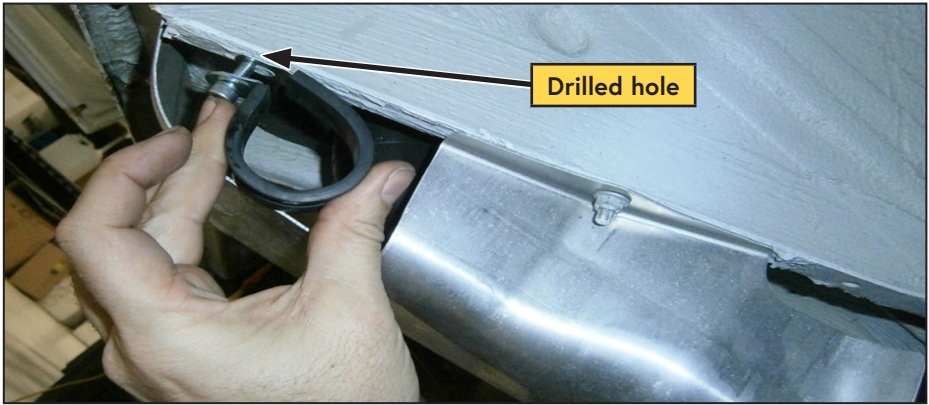

Figure 43 — Install P-clip
- Drill a 1/4 in hole in the rear lip of the fuel filler bodywork in the location shown (Figure 43).